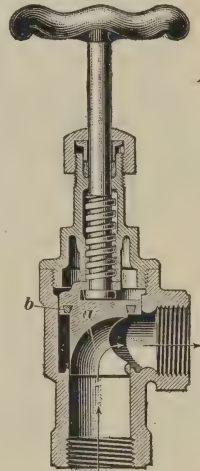

FIG. 75
**118.** The **elbow valve** shown in Fig. 75 is a new type of valve used chiefly for blow-off connections from boilers, but can be used for other purposes. It consists of a screw-down valve with an internally curved plug *a* having a soft-metal ring *b* around it. The spindle construction is similar to that of the ordinary valve. The plug is guided in its travel by guides, not shown; they prevent its turning and keep the curved recess of the plug in line with the outlet.